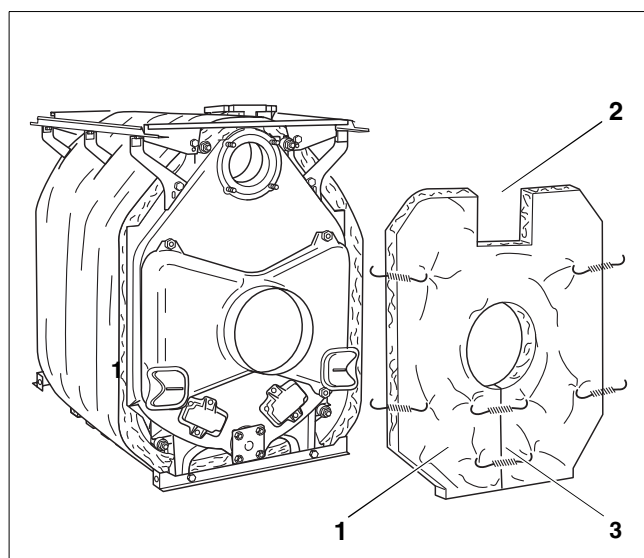

Fig. 45 Assembly – Fitting insulation to rear section
- Insert the thermal insulation for the rear section of the boiler (Fig. 45, **ref. 1**) onto the flue connection. The cut-out for the boiler return (Fig. 45, **ref. 2**) should be at the top.
- Pull the gap below the flue connection closed with two spring clips (Fig. 45, **ref. 3**).